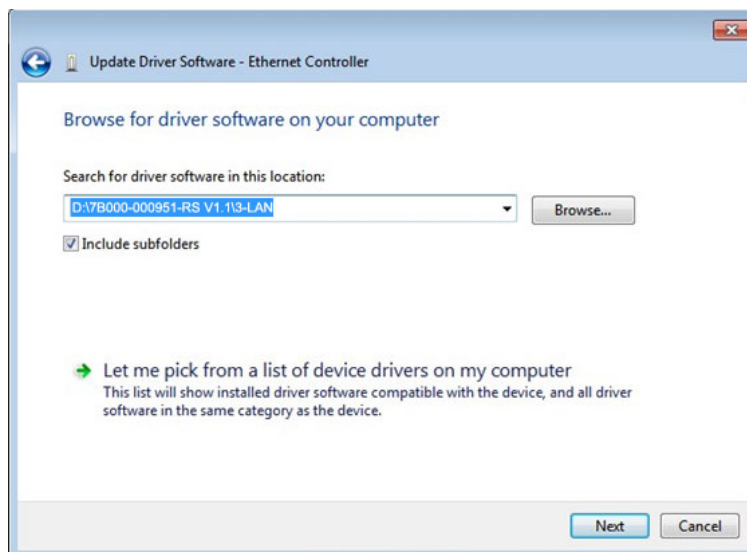

Figure 6-17: Locate Driver Files
**Step 9:** Click Browse to select “X:\3-LAN” directory in the **Locate File** window, where “X:\” is the system CD drive. (Figure 6-17).